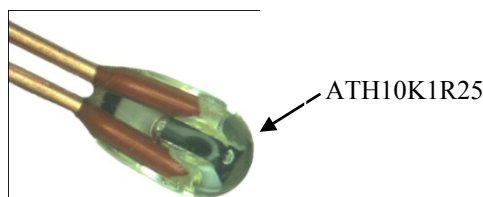
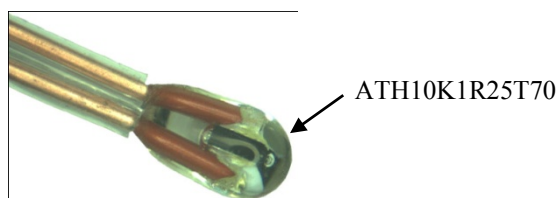
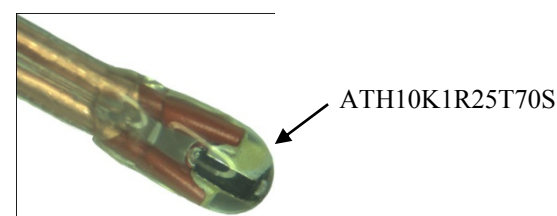

Figure 6.1. Bare Leaded Thermistor Head Photo
Figure 6.2. Tubing Leaded Non-sealed Thermistor Head Photo
Figure 6.3. Tubing Leaded Sealed Thermistor Head Photo
- Do not bend the thermistor leads at the location that is too close to the thermistors body, to avoid breaking the glass coating, as shown in Figure 6.1, Figure 6.2, and Figure 6.3 below. Only bend the leads at the location that is at least 2mm away from the thermistor body.